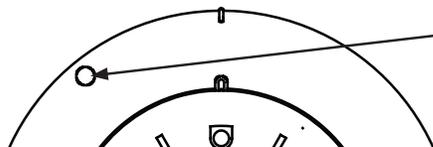

Figure 4: Removing Base Cover from Lower Enclosure
3. To remove the base cover from the lower enclosure once the locking feature has been activated, insert a small screwdriver into the slot on the on the base to push the plastic tab while simultaneously turning the detector head counter-clockwise (refer to Figure 4).